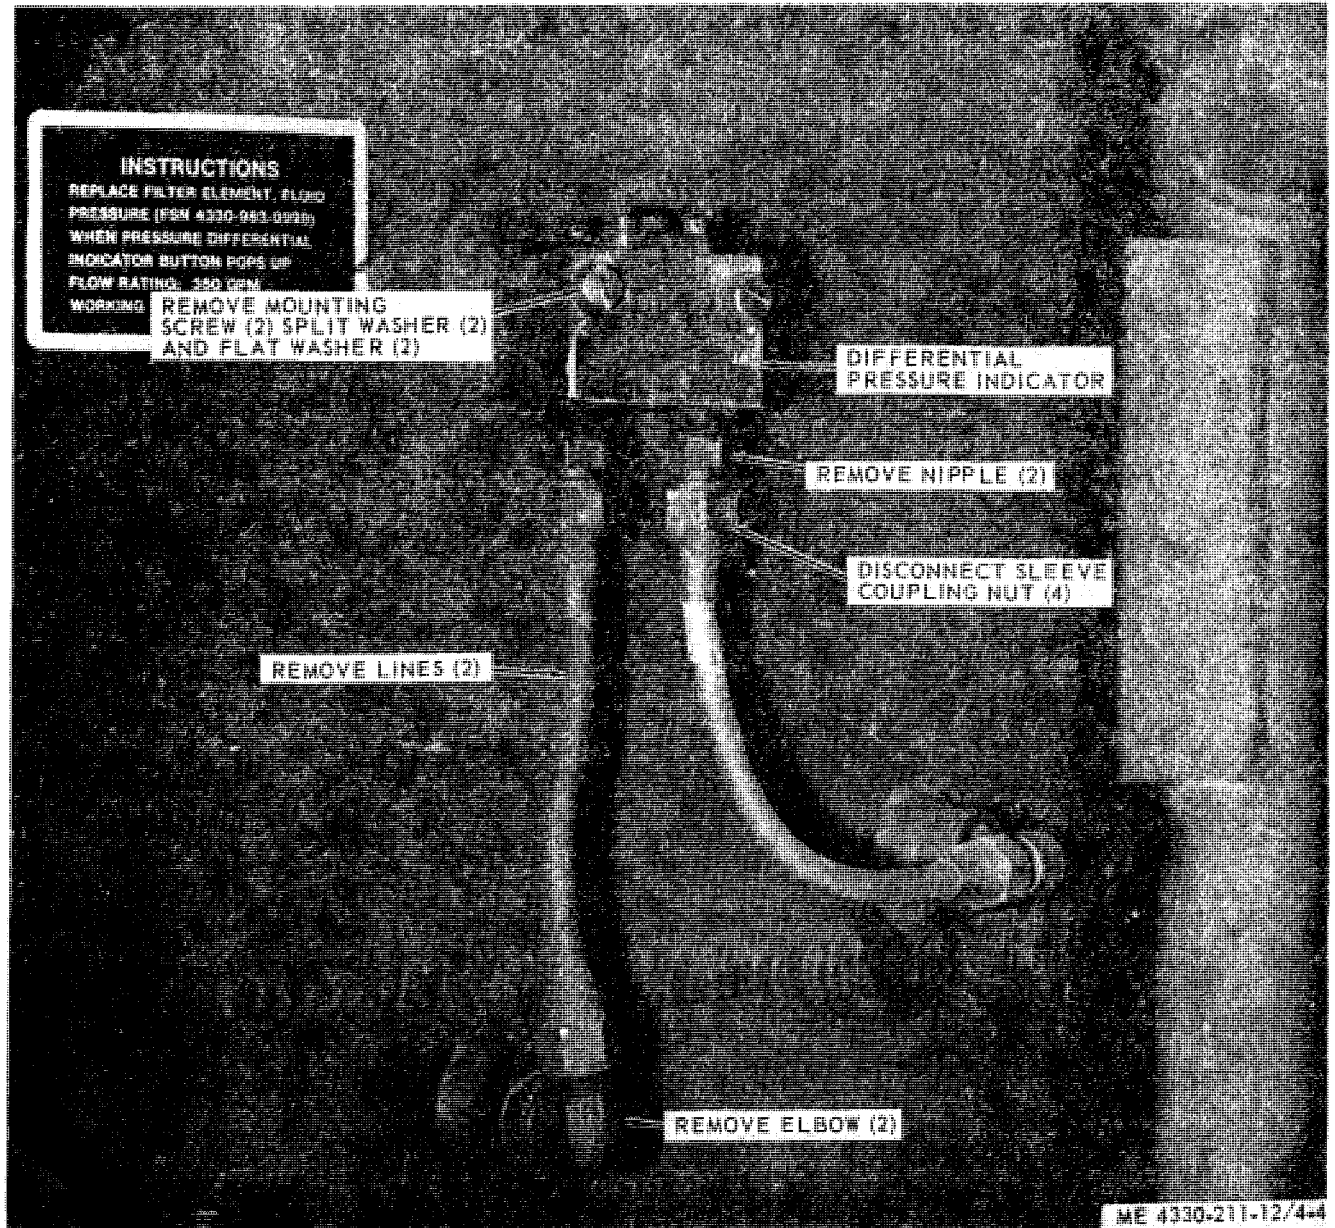

Figure 4-4. Differential pressure indicator, lines, and fittings.
a. Removal. Remove lines and fittings as shown in figure 4-4. Fabricate new lines as required.
a. Removal. Refer to figure 4-4 and remove the differential pressure indicator.
(1) Connect a compressed air line to high and low pressure lines.
(2) Maintain an equal pressure on both lines then reduce air pressure in the low pres-
(1) Refer to figure 4-4 and install the differential pressure indicator in reverse order of removal.
(2) Connect the high and low pressure lines after securing the differential pressure indicator to the unit.